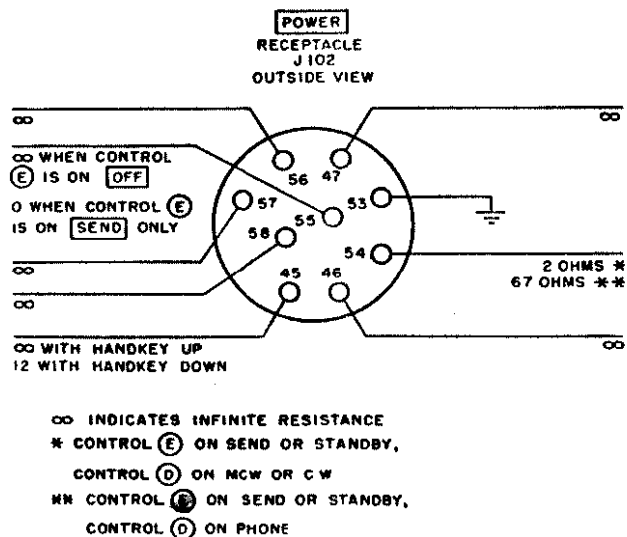

Figure 89. Transmitter power socket resistances to ground.
b. TRANSMITTER POWER SUPPLY CIRCUITS (figs. 80, 81, 82, and 89). Disconnect power cables, Cords CD-1086-GY and CD-1119-GY, from the transmitter and remove the key and microphone from their jacks. Check the resistances to ground of the contacts of the transmitter POWER socket (fig. 89). If the readings shown are not obtained, do not apply power to the radio set; trace the circuits to see where the trouble is located. Otherwise, damage may be done to the power supply. Correct all conditions leading to abnormal readings before applying power to the radio set.